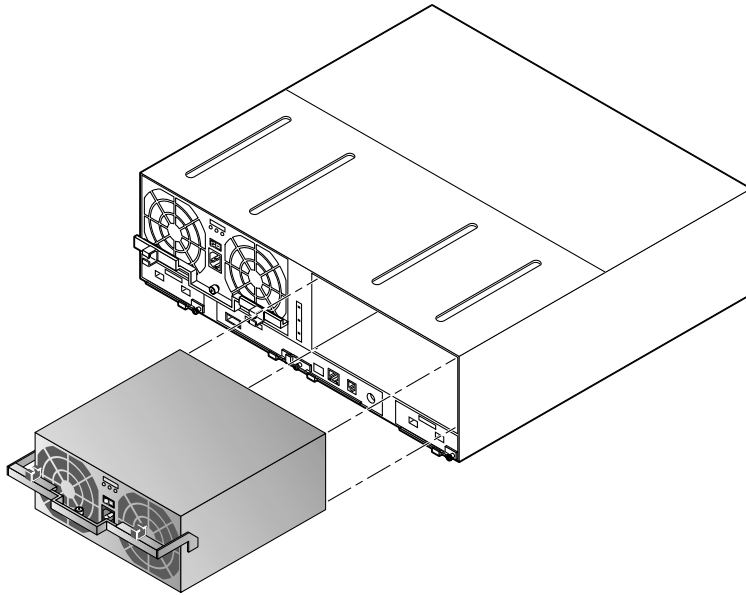

FIGURE 6-10 Removing the Power and Cooling Unit
- 5. Pull up on the latch handle to release the power and cooling unit from its connector (FIGURE 6-10).**